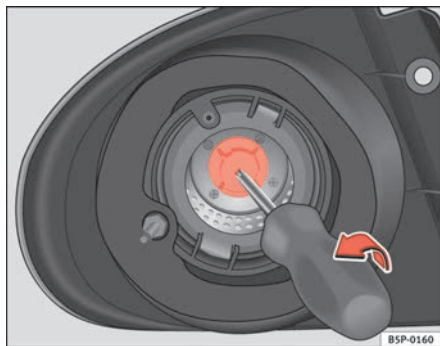

Fig. 187 Indicator light
- Pull out the lamp holder from the turn signal using a screw driver in the direction of the arrow (see ⇒ fig. 187).